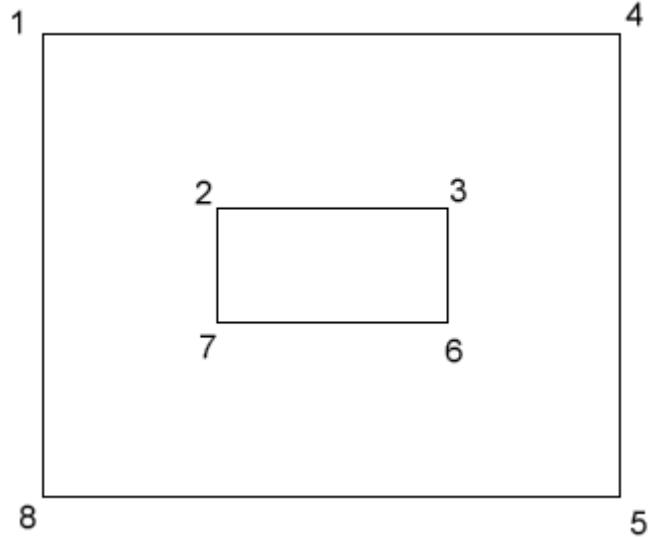

Figure 2.1.3
**Step 2:** **Offset** the rectangle, 3 units to the inside. Refer to **Figure 2.1.3**
**Step 3:** Use the **3D Face** command to create a surface between the two rectangles as follows: Refer to **Figure 2.1.3**.